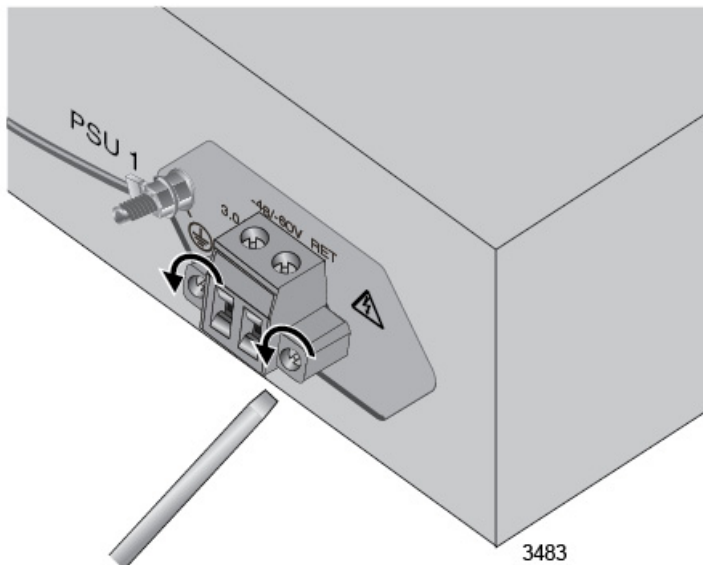

Figure 33. Loosening the Two Captive Screws on the DC Connector
2. Use a 3mm flat-head screwdriver to loosen the two captive screws that secure the DC connector to the chassis. Refer to Figure 33.